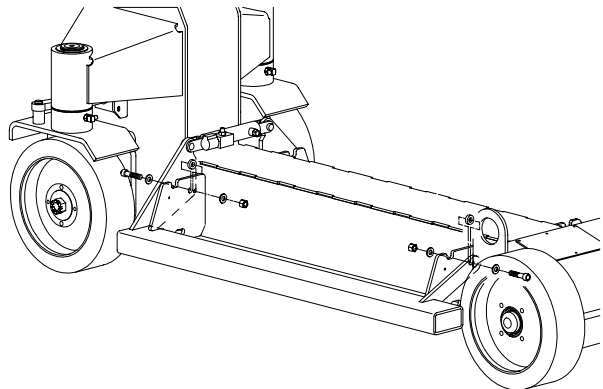

Figure 1
1. Remove the attaching bolt from the left depression cylinder attachment (retain hardware for reinstallation)(see Figure 1).
3. Remove the left depression weldment (see Figure 1).